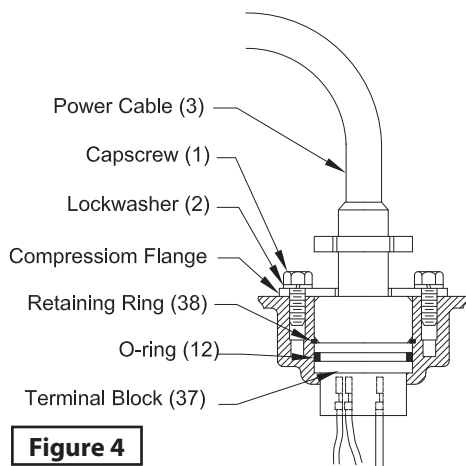

Figure 4
Lubricate o-ring (9) with dielectric oil and slide terminal block (37) back into housing (15). Be sure terminal block is engaged and install retaining ring (38). Place cap screws (35) with lockwashers (11) through housing (15) into intermediate coupling (21) and tighten. (See Figure 4)